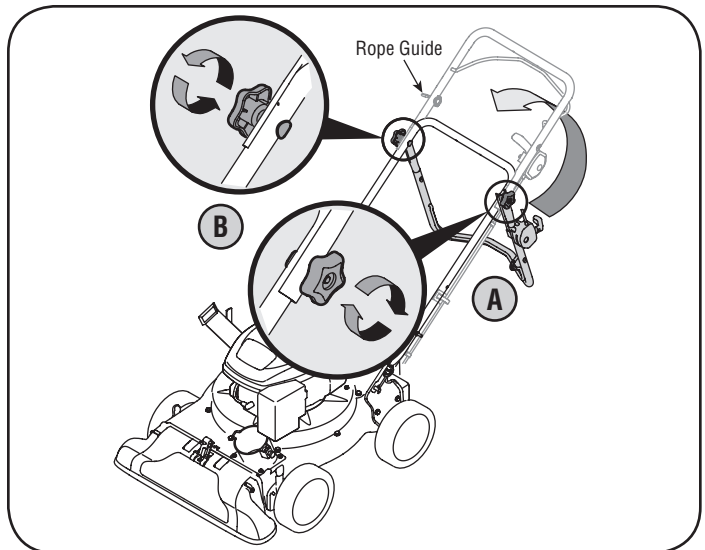

Figure 3
2. a. Unfold the upper handle until it aligns with lower handle. Make sure the rope guide is on the right side of upper handle. See Figure 3.
- b. Secure the two handles by tightening the handle knobs (carriage bolts must be seated properly into the handle). See Figure 3.